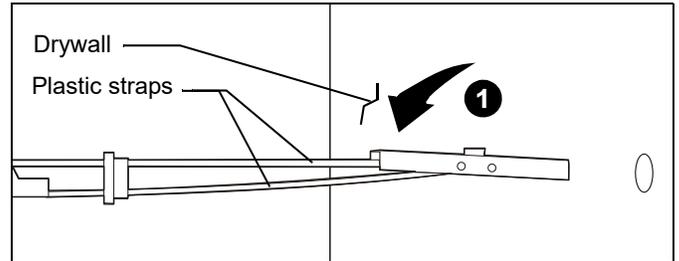

Figure 20
1. Hold metal channel on anchor flat alongside plastic straps and slide channel through hole. (See Figure 20)